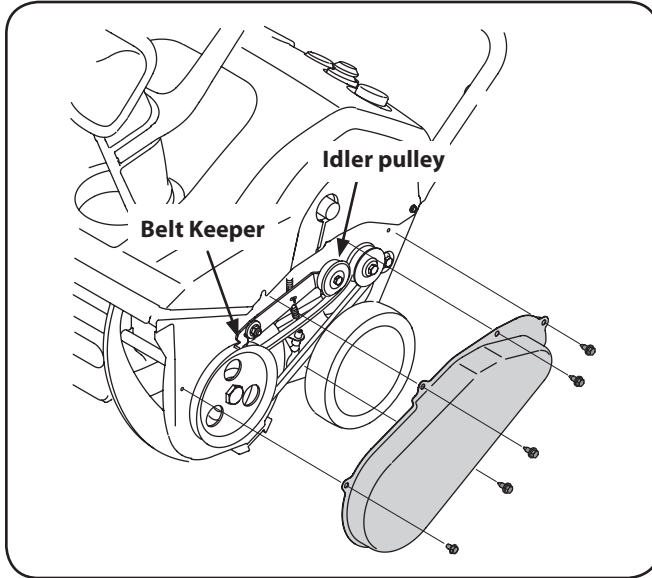

Figure 7-1
1. Remove the belt cover by removing five hex screws. See Fig. 7-1.
NOTE: Push down on the idler pulley to release the belt from under the belt keeper. See Fig. 7-1.